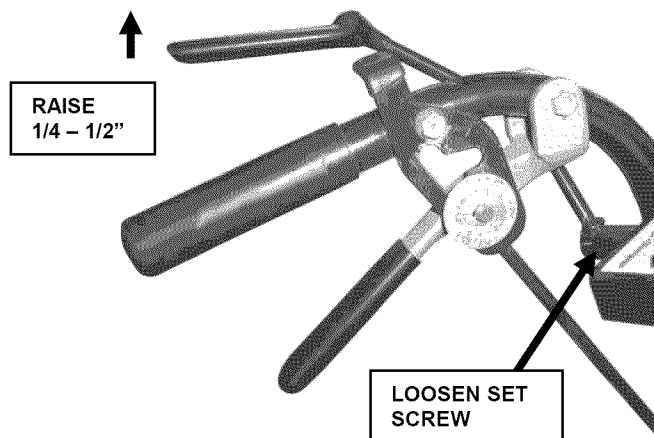

FIGURE 6.15
- Loosen set screw on OPC boss. See Figure 6.15.